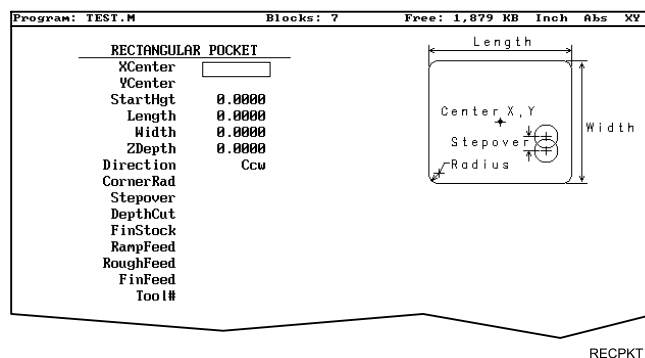

Figure 5-15, RECTANGULAR POCKET Graphic Menu
2. Highlight **Rectangular**, and press **ENTER** to display the **RECTANGULAR POCKET** Graphic Menu. Refer to **Figure 5-15**.